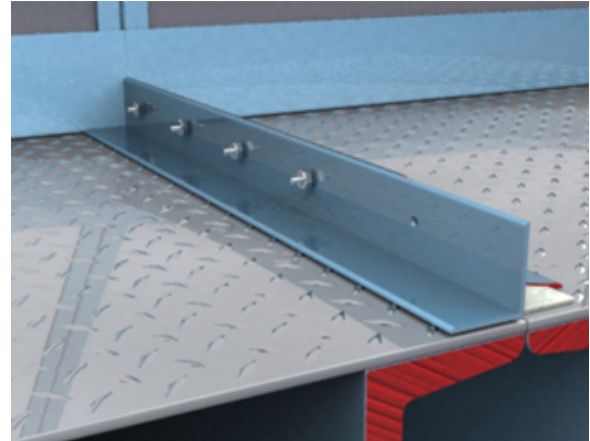
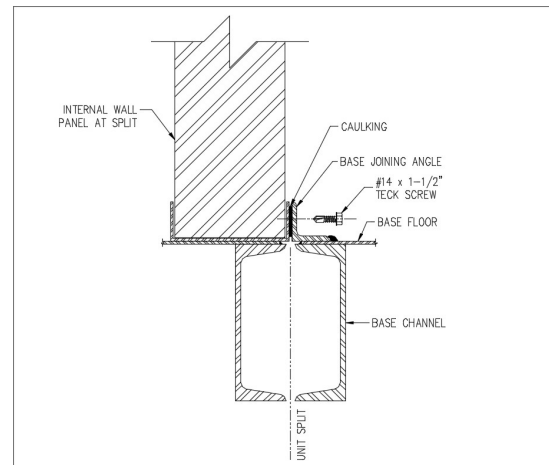
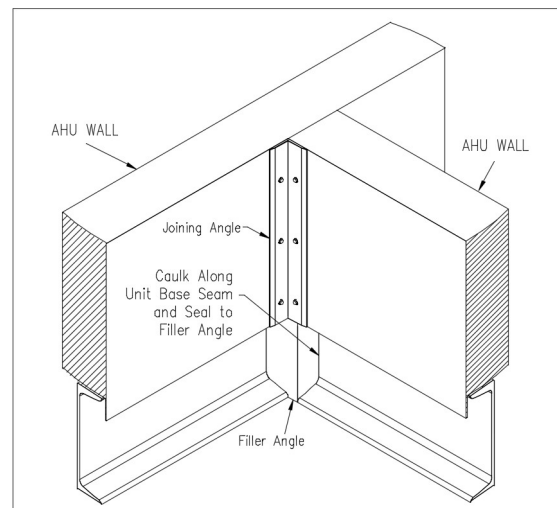

Figure 9: Base Joining Flanges Detail.
Figure 10: Internal Wall Joining Angle Detail
Figure 11: Unit Base Sealing Detail at "L" Junction
4) Attach the units by using 5/16" nuts and bolts to fasten together the base joining flanges (ref. Figure 9). If necessary, pull the section together mechanically from the base with a come-along or similar device. Before pulling sections together secure first section to mounting surface. If the base joining angle butts up to an internal wall, use #14 tek screws to secure together (ref. Figure 10). Seal unit base to filler angle at any "L" junctions (Figure 11).